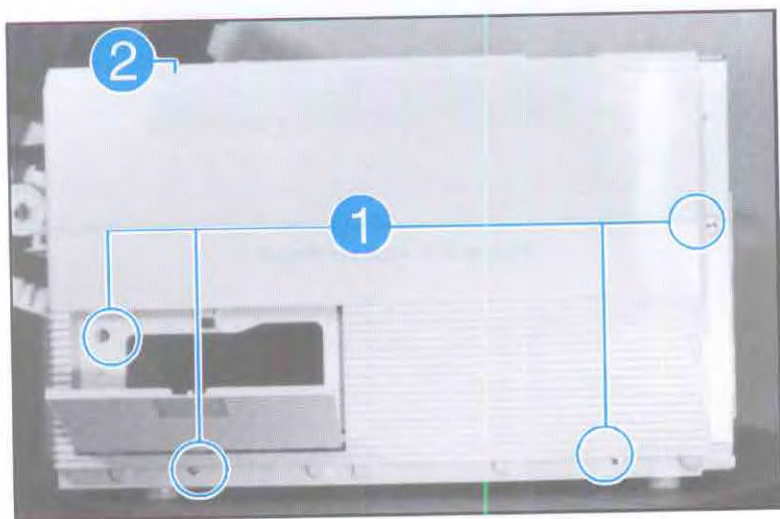

Figure 6-9. Left Side Cover
5. Remove the (4) screws securing the Left Side Cover (see Figure 6-9, callout 1).
6. Remove the (1) screw located on the top edge of the Left Side Cover (see Figure 6-9, callout 2), and remove the Left Side Cover.